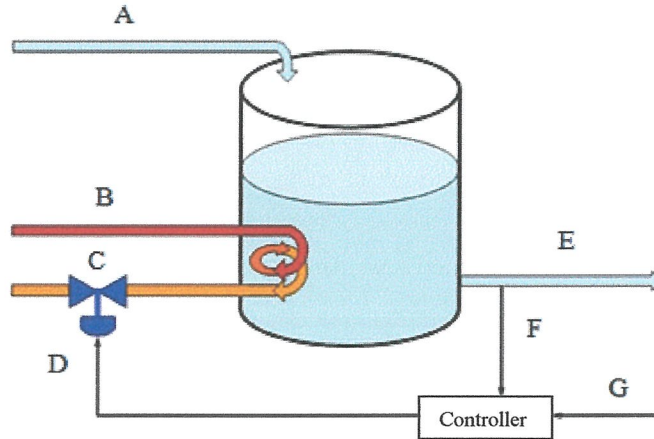

Figure Q1(d)
- (a) List **three (3)** main components in control system. (3 marks)
- (b) Explain the process variable (PV) and set point (SP). (4 marks)
- (d) Mikhail needs to design system for tank water heater system as in **Figure Q1(d)**. The water heater system temperature need to be controlled up to 70 degree celcius.
- i) Determine the component listed from A until G from Figure Q1(c). (3.5 marks)
- (a) List **one (1)** process sensor. (1 mark)